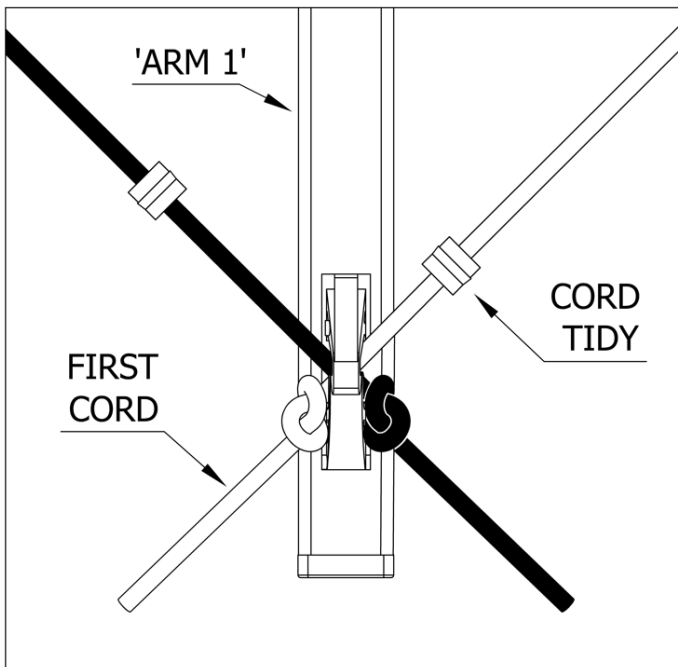

Fig 5. Feed through clip and tie knot.
9. Feed the second Cord Tidy onto the end and put it through the outermost clip and tie a knot. (Fig.5)